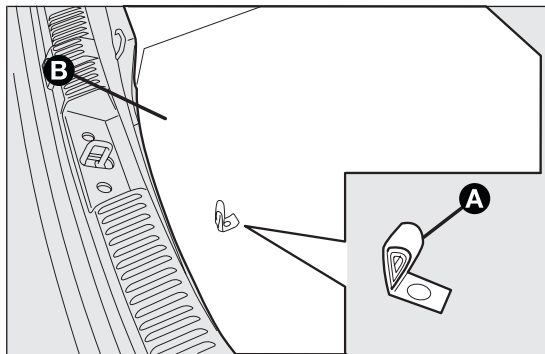

fig. 141
- turn the engine off and pull up the handbrake; engage first gear or reverse; use handle A to remove the rigid preformed cover B fig. 141;